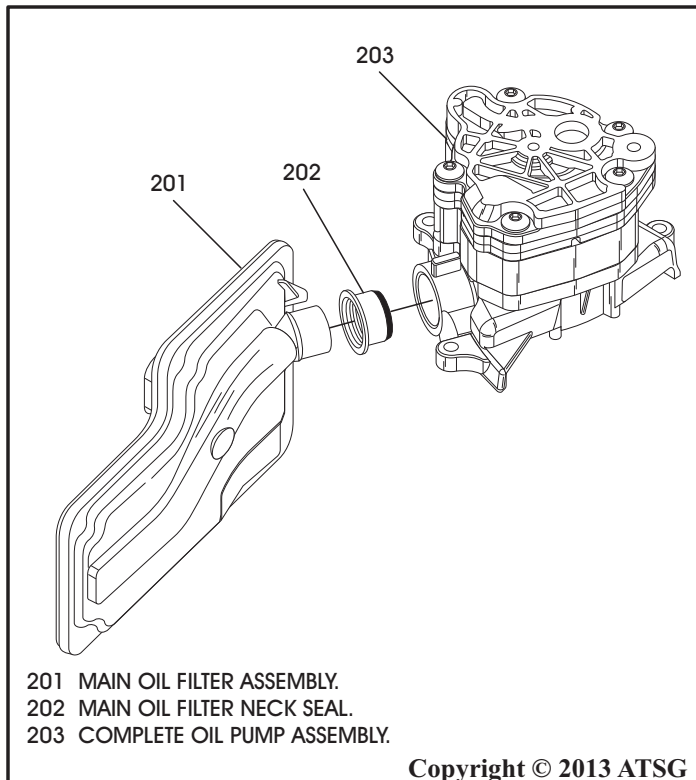

Figure 99
1. Remove and discard the main oil filter assembly as shown in Figure 99.
2. Remove and discard the main oil filter neck seal as shown in Figure 99.